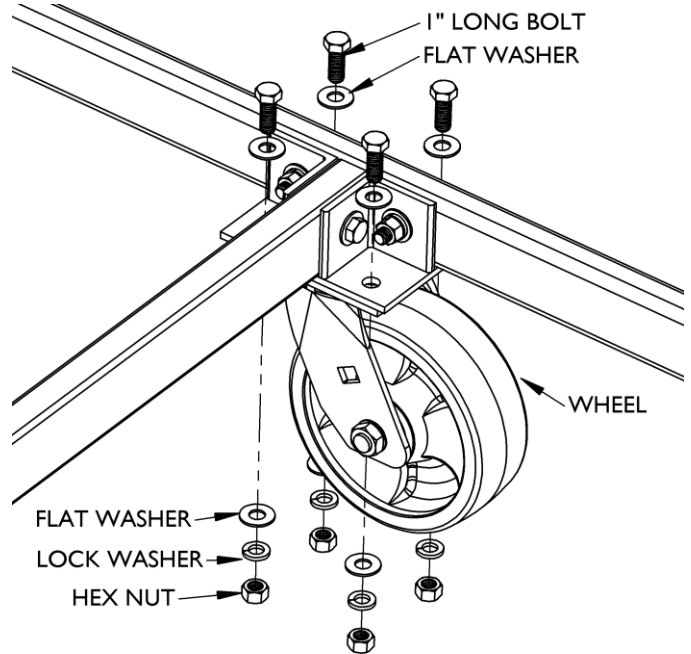

Figure 6
- Hand-fasten a caster to each center connector bracket with four 1" long bolts as shown in Figure 6.